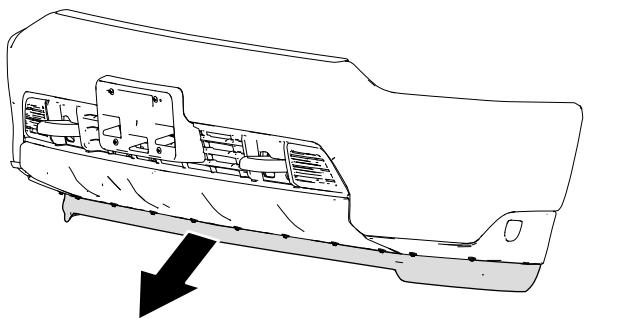

Figure 1
3. Remove the lower bumper valance (Figure 1).